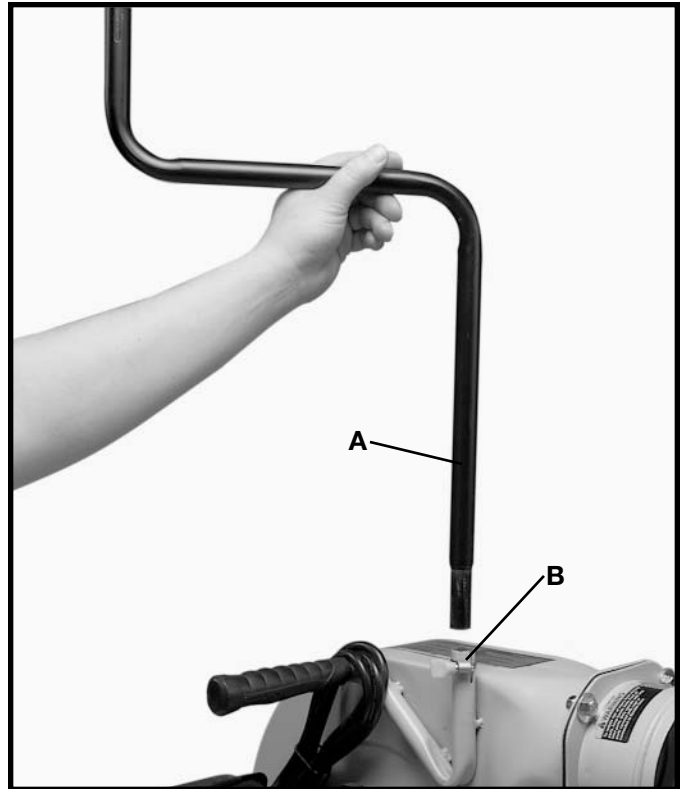

Fig. 8
2. Insert the tube support bracket (A) into the tube support holder (B) as shown in Fig. 8.